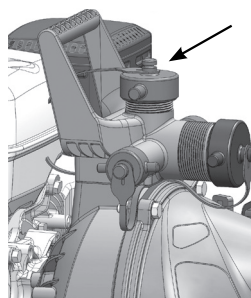

Figure 1.1
**Firefighter models with 3-way outlets:** use a top discharge port as a priming port as shown in **figure 1.1**.